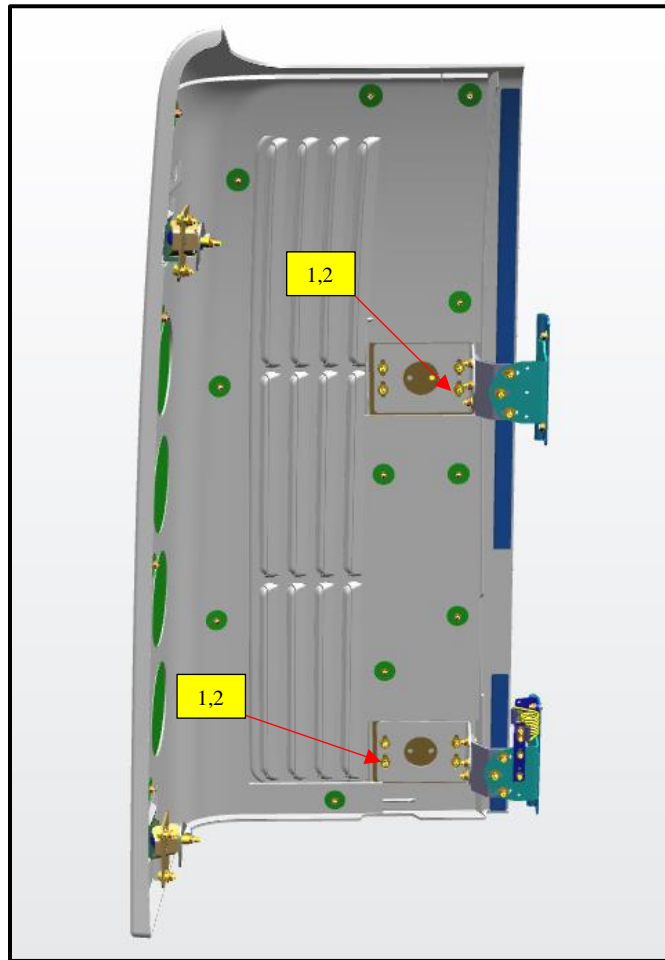

Figure 2: Removal of Corner Pillar Access Door Reference.
- 5) Remove corner pillar access door (Illustration is for reference only) See figure 2.